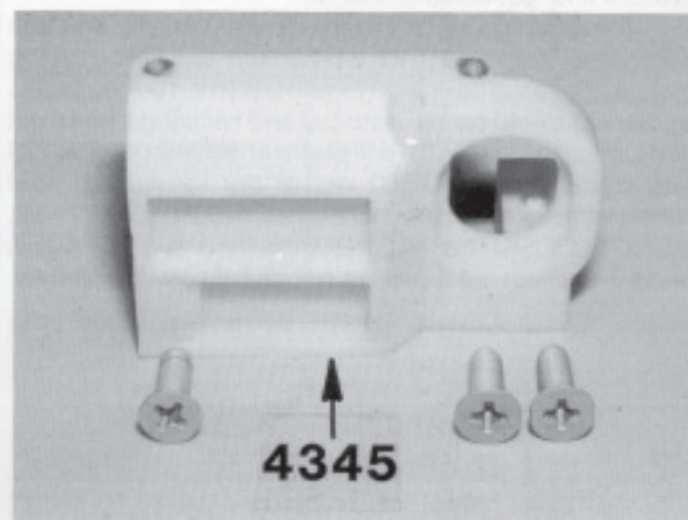

Fig. 19
□ Figs. 19 & 20 In bag #4 you will find the #4345 left nylon rear bulkhead and three #3324 8-32 x 1/2" FHMScrews. Install the left hand bulkhead onto the lower rear brace using the three #3324 screws. Do not overtighten.